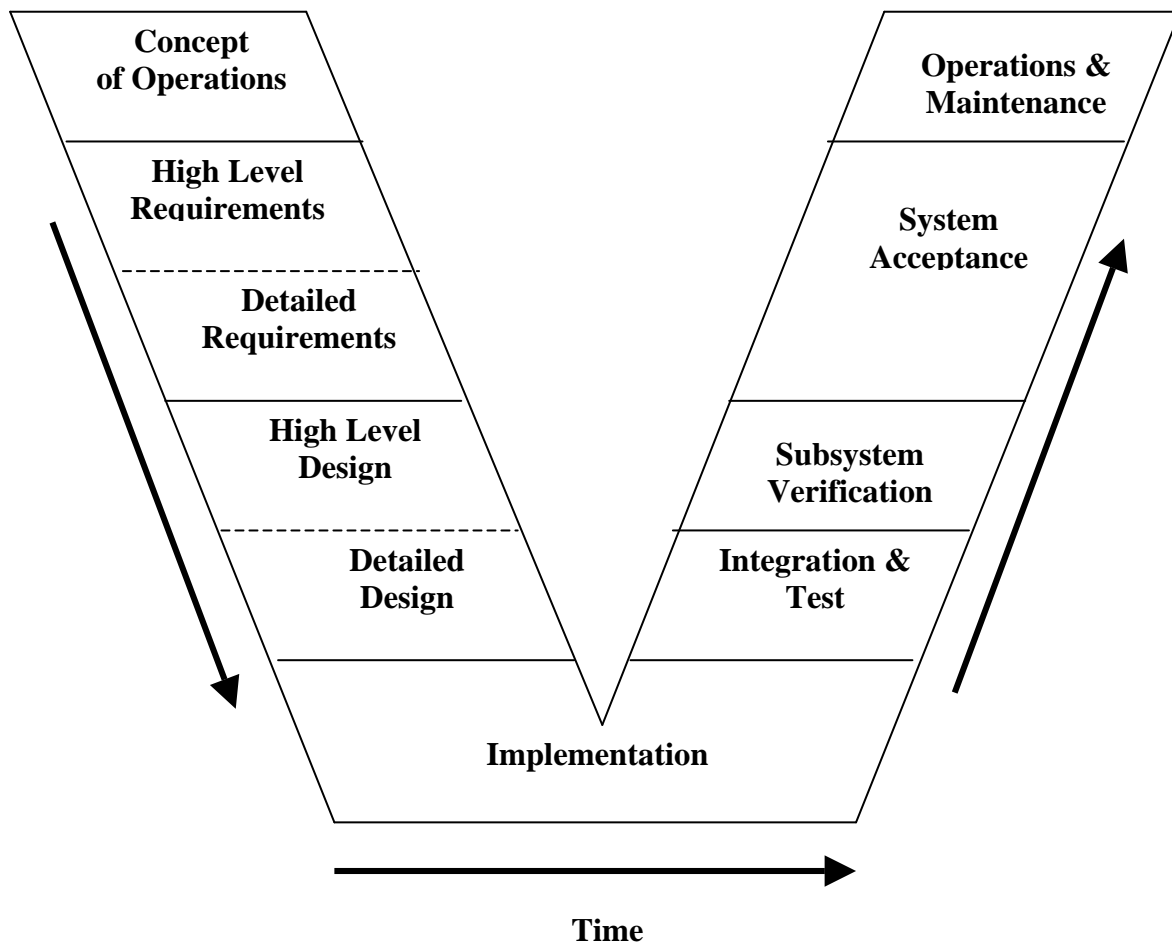

Figure 6
A good way to see how systems engineering and the system life cycle interact is to look at the life-cycle as what's known as a "V" model or diagram of the system life cycle. The "V" (or "VEE") model is a way of relating the different stages in the system life cycle to one another. Figure 6 illustrates the "V" model.
**System Design vs. Integration and Testing.** The “V” diagram in Figure 6 actually breaks this down into two components. System Design is subdivided into “High-Level Design” and “Detailed Design.” Directly across from “High-Level Design” is “Subsystem Verification,” which is a reasonable correlation. Part of what’s done in the High-Level Design activity is to break the system down into its subsystems, each of which is assigned a major functional area of the overall system. In Subsystem Verification, you’re integrating all of the components of the subsystem and testing the subsystem(s) as units. It’s the appropriate way to look at how the two stages are correlated.